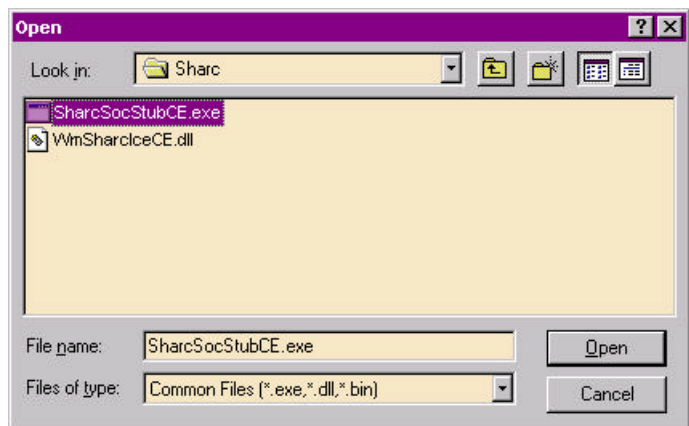

Figure 10. Find File Dialog
4. Select the **Download** button. The File Select dialog will be displayed as in figure 10.